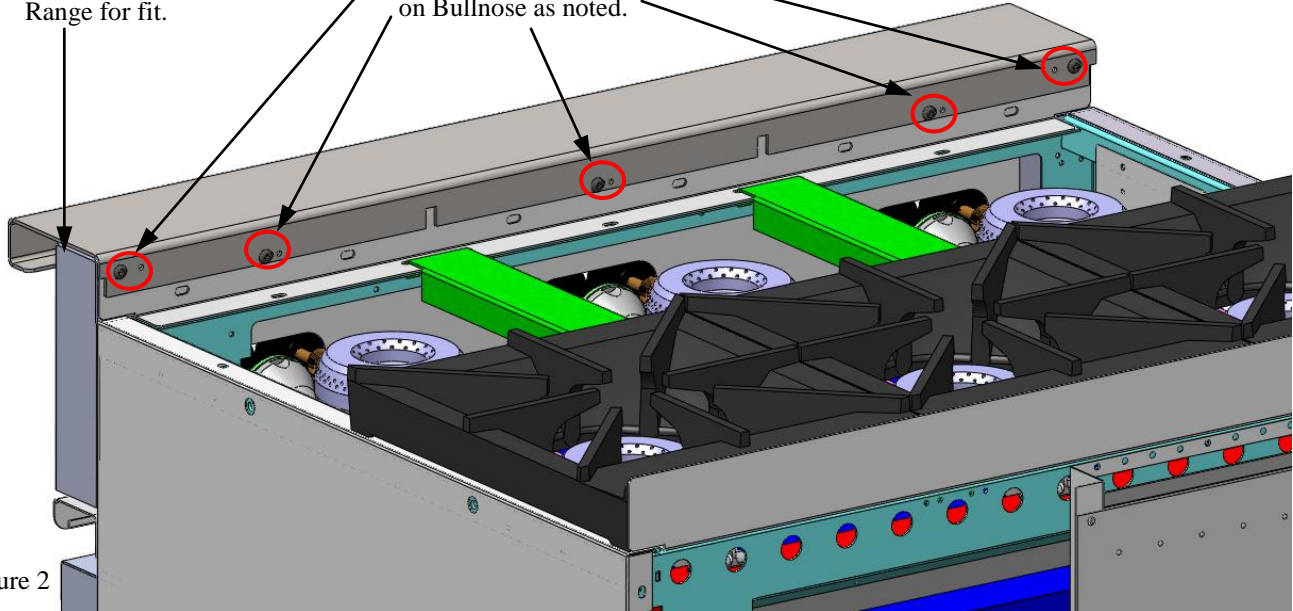

Figure 2
- 4.) Going across the width of the Range install the next screw, as shown in Figure 2, set the alignment and tighten screw completely.